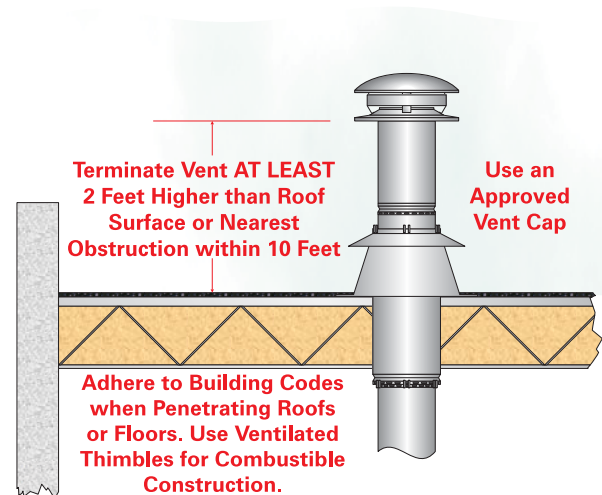

Figure 4.2: Vent Termination
1. Always use a vent cap to reduce wind effects and downdrafts (Figure 4.2).